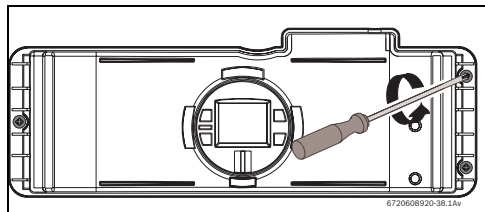
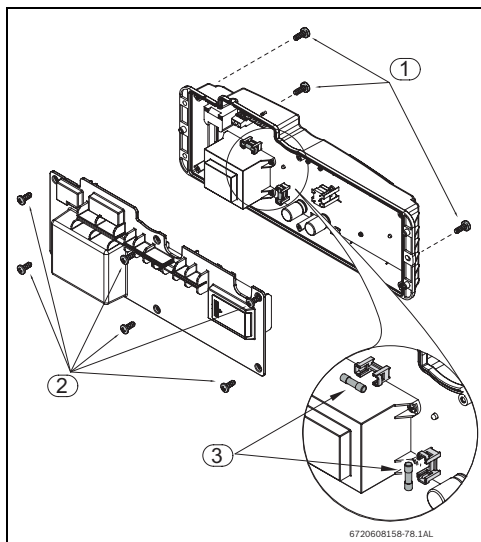

Fig. 56
Fig. 57 Fuses position
- Remove the three screws from the control unit (Fig. 56 e Fig. 57 , pos. 2).
- Remove the six screws from the back cover of the control unit, see Fig. 57 , pos.2.
- ▶ Loosen the three screws of the control unit (Fig. 56).